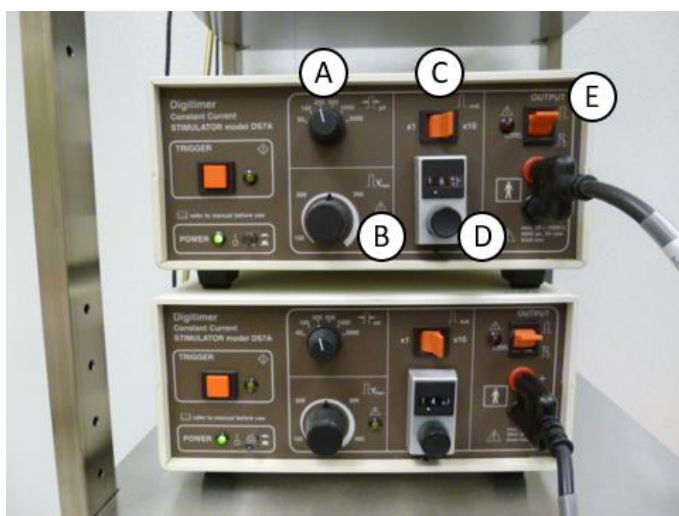

Figure 11: Digitimer setup for median nerve stimulation.
- The recommended settings for the Digitimer stimulator are (see Figure 11):
- Reset the stimulator if needed by flipping the OUTPUT switch (E) down then up (the light is not illuminated during normal use).